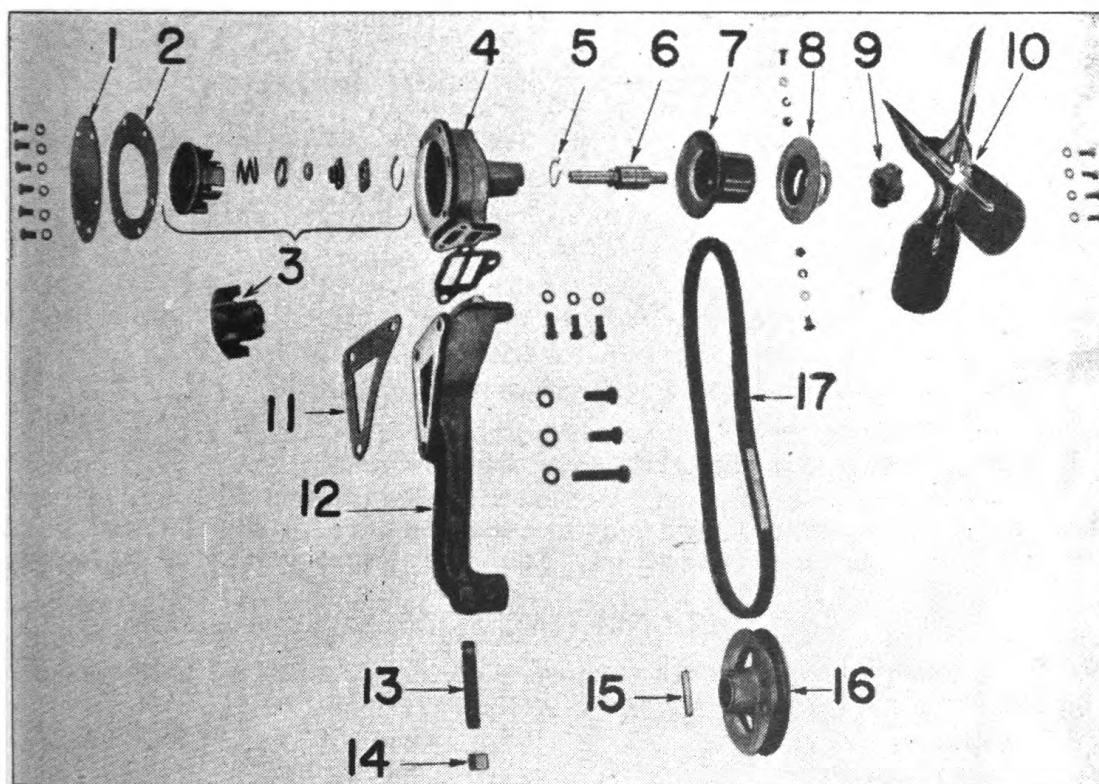

Fig. 31. Details of Water Pump
1. Remove the fan blades No. 10 Fig. 31 by taking out four cap screws that hold fan pulley hub No. 7 Fig. 31 to hub No. 9 Fig. 31 on water pump shaft.
3. Loosen the three cap screws which attach the water pump to the water connection No. 12 Fig. 31 on the front of the engine. Remove the water pump complete as shown in Fig. 10.
1. Remove back plate No. 1 Fig. 31 on water pump housing by taking out six $\frac{5}{16} \times \frac{5}{8}$ inch cap screws. Use care so that gasket No. 2 Fig. 31 is not damaged.
2. Remove impeller No. 3 Fig. 31 by using suitable puller. **Do not drive off** as this will damage end of impeller.
3. Remove snap ring No. 5 Fig. 31 on the fan blade end of bearing and drive out water pump bearing assembly. This should be driven away from the the impeller or toward the fan end of pump.
2. If the water pump bearings No. 6 Fig. 31 are worn, a complete new water pump bearing assembly should be installed by pressing into place and re-installing the snap ring No. 5 Fig. 31.